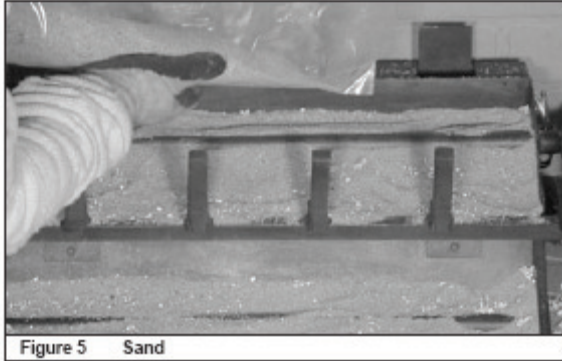

Figure 5 Sand
- Pour sand into the burner pans to the point where the burner pipe is covered. See Figure 5. Level the sand from right to left to ensure an even flame pattern. At this point the pan should be half full. Be sure not to cover pilot assembly.